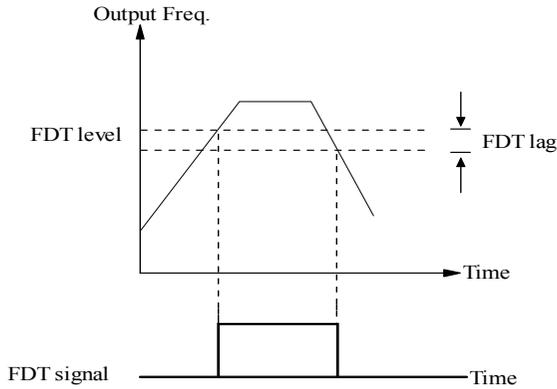

Fig. 5-3-9 FDT level and lag diagram
- ◆ When the output frequency reaches a certain preset frequency (frequency detection threshold), Y terminal output will be valid. We called the preset frequency FDT level. In the dropping of output frequency, Y terminal output keep valid, until the output frequency drops below another certain frequency of FDT level, which is called release frequency (FDT1 level-FDT1 lag), as shown in Fig. 5-3-9.